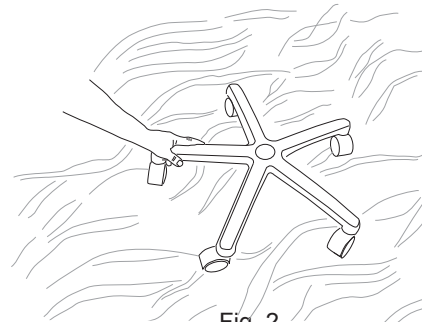

Fig. 2
2. Set Caster Base on floor (figure 2).